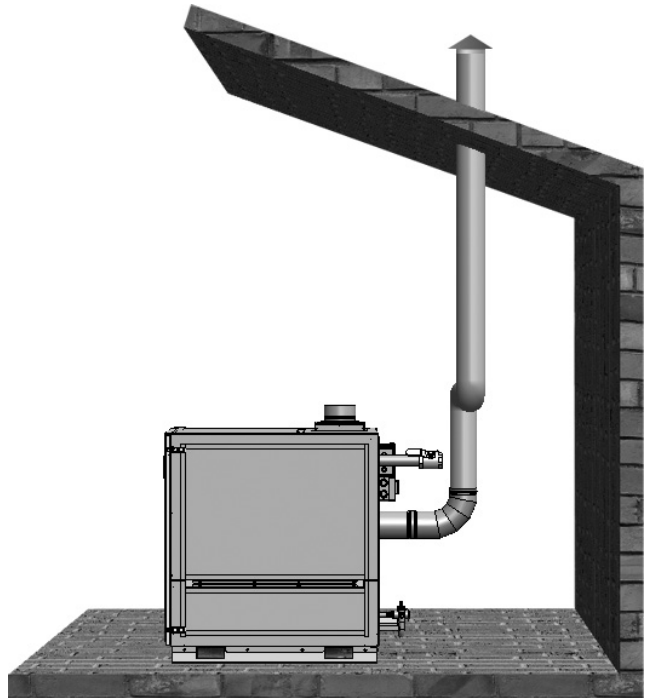
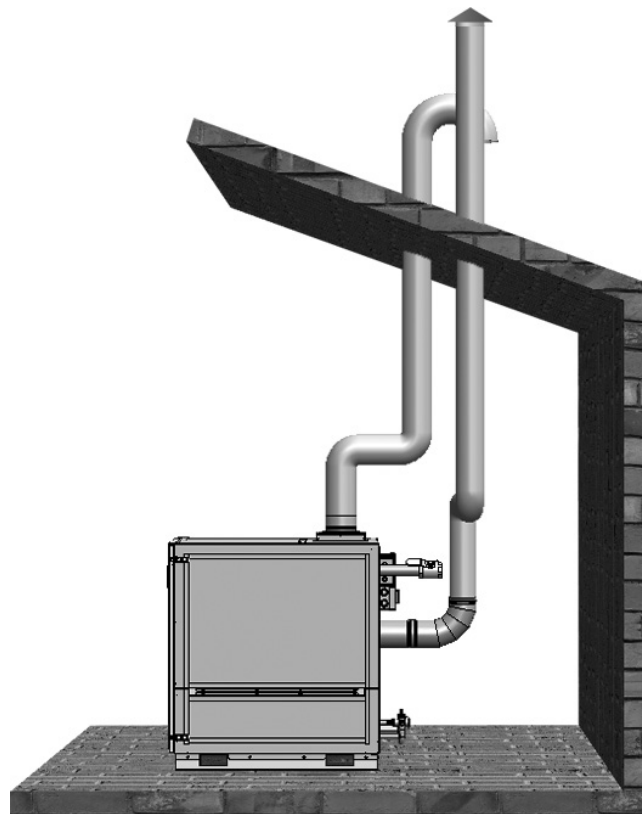
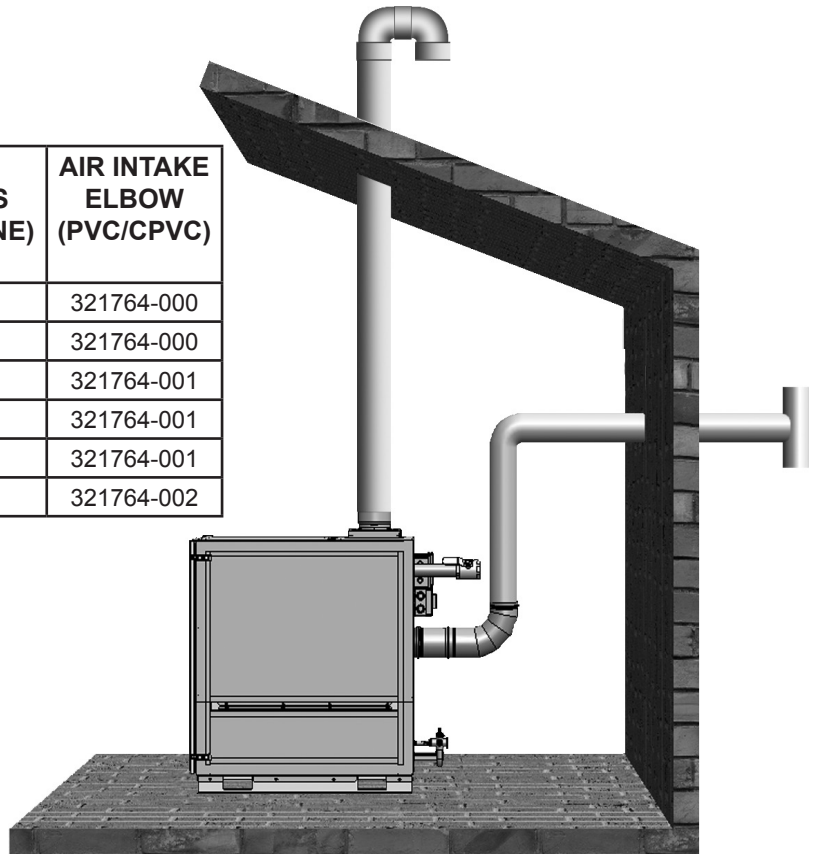

FIGURE 24. VERTICAL VENTING/ TERMINATION
FIGURE 27. DIRECT VENT VERTICAL
FIGURE 29. DIRECT VENT, HORIZONTAL VENT VERTICAL INTAKE
1. **Vertical Termination** - vertical vent termination through un-enclosed or enclosed areas with roof penetration, see Figure 24 on Page 29.
4. **Vertical Direct Vent** - using a vertical vent termination to exhaust flue products and PVC piping to bring combustion air to the boiler from outside, see Figure 27 on Page 30 and Figure 28 on Page 31.
1. The vent system must terminate at least 3 feet (0.9 m) and no more than 6 feet (1.8 m) above the roof line and no closer than 10 feet (3 m) from any wall or vertical structure. If the exhaust vent terminal is within 10 feet (3 m) of a wall or parapet, it must extend a minimum of 2 feet (0.6 m) above the wall or parapet, see Figure 24 on Page 29 and Figure 27 on Page 30.
2. For direct vent installations, the total distance of the vent system from the boiler vent connector to the vertical vent termination should not exceed 100 equivalent feet (30.5 m). Minimum vertical vent is 10 equivalent feet (3 m) for direct vent installations. Standard minimum vertical vent length is 10 feet (3 m). See Figure 24, Figure 27 thru Figure 29 for differences between standard and direct vent installations.